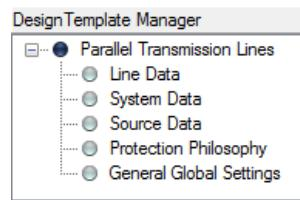

Figure 6.55 Create an Item Node and Multiple Tab Groups to Help With Organization
- Step 2. To create a new tab group, right-click the previously created item node and select **Add Group**. Name the group "Line Data." Repeat this process for "System Data," "Source Data," "Protection Philosophy," and "General Global Settings" to match *Figure 6.55*.